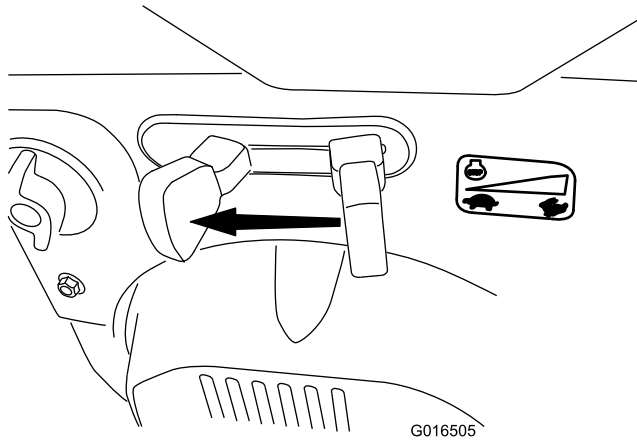

Figure 31
1. Move the throttle to the Slow position, and then to the Stop position (Figure 31) to kill the engine. The engine can also be stopped by pulling the ignition key outward to the middle position.